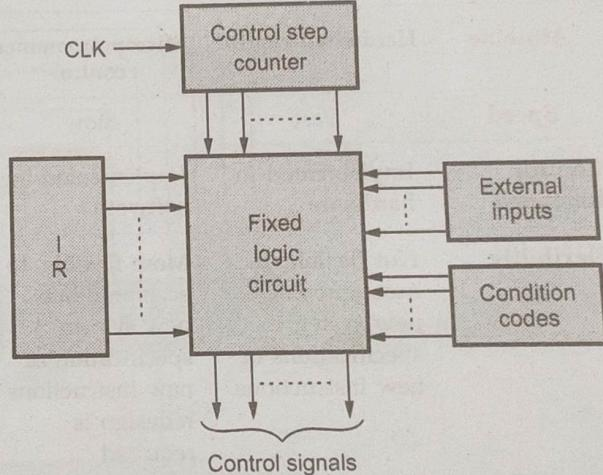

Fig. Q.19.1 Typical hardwired control unit
- Fig. Q.19.1 unit. Here, combination generates the on the state
- Fig. Q.19.1 shows the typical hardwired control unit. Here, the fixed logic circuit block includes combinational circuit (decoder and encoder) that generates the required control outputs, depending on the state of all its inputs.